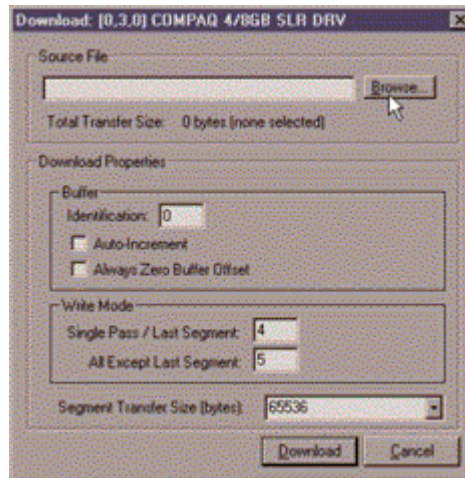

Figure 5-7. Download dialog with no file selected.
You will reach the download dialog, shown in Figure 5-7, if you answered No to the 'use database' prompt or if you did not cancel the Available Updates dialog. As the download dialog starts, it communicates with your device to determine the optimal download parameters.
**IMPORTANT:** The default parameters, shown in Figure 5-7, might be the ones that TSMC selects. You should not change these settings.